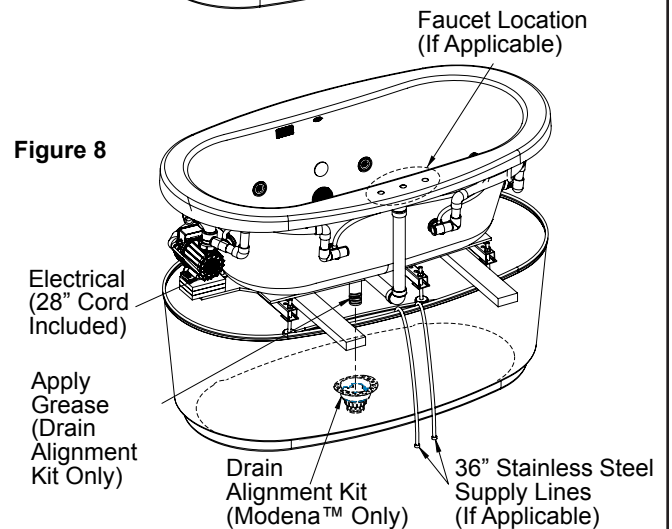

Figure 8
- 2 Install the overflow drain kit onto the bathtub with the supplied brass tailpiece that is included in the drain alignment kit (Modena™ only). Be sure to apply the supplied grease to the end of the tailpiece where it will connect to the drain alignment kit (Fig. 8).
- 4 Place the bathtub onto the wood supports in the position that it will be lowered into the skirt (Fig. 8). The wood supports need to be positioned under the bathtub away from the foam blocks or adjustable brackets. Orient the bathtub properly with respect to the electrical outlet and the drain. Also, make sure the drain and overflow areas line up with the drain alignment kit.